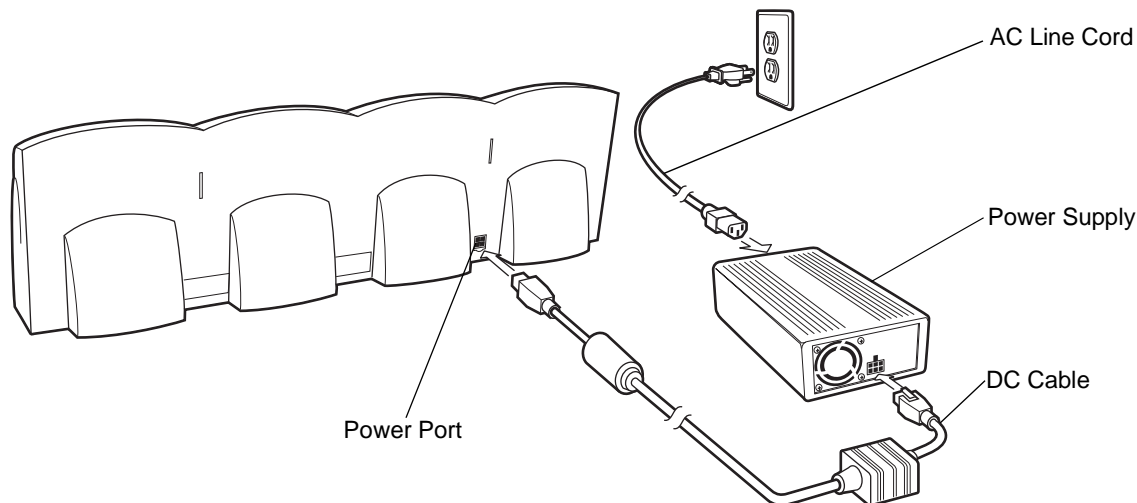

Figure 2-3 Four Slot Charge Only Cradle, Setup
5. Connect the power (see Figure 2-3 on page 2-8). The power supply should be located in the power supply well.